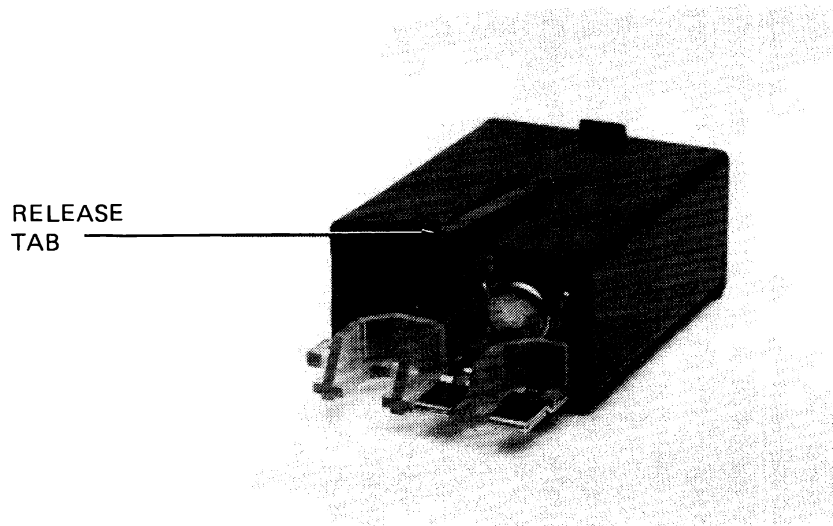

FIGURE 4-5. LOCATION OF FUSE PLATFORM RELEASE TAB
5. Lift the tab and pull the fuse platform from the drawer unit. Refer to Figure 4-5 for the location of the tab and fuse platform removal.